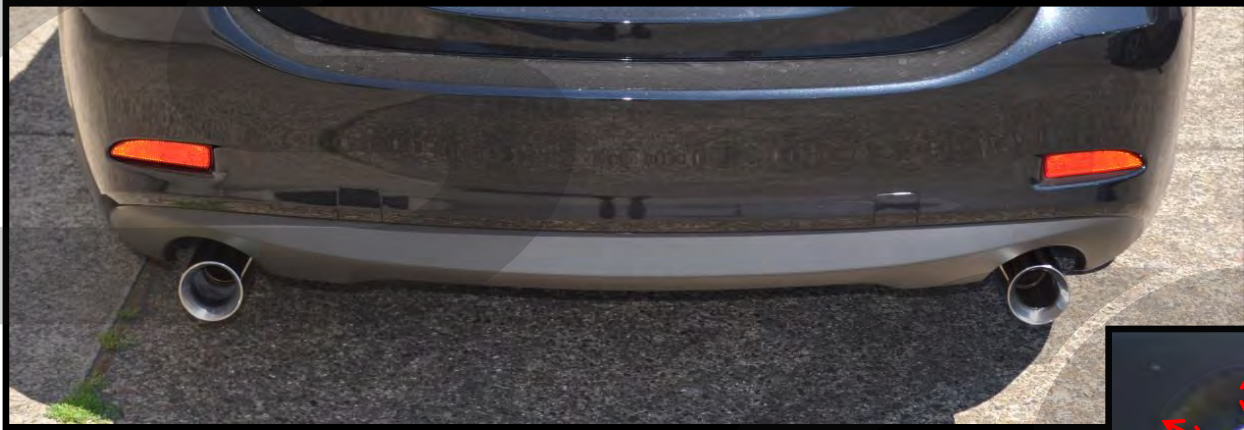

Figure 5e
- c) **Align the exhaust tips and hangers so the exhaust is straight and centered.** Figure 5c and Figure 5e show how the exhaust should look when properly aligned.
Misalignment of the axle back muffler section could result in melting the bumper cover. Ensure there is at least a 1/2" gap between the exhaust tip and bumper cover. Gap is shown with red arrows in Figure 5e.